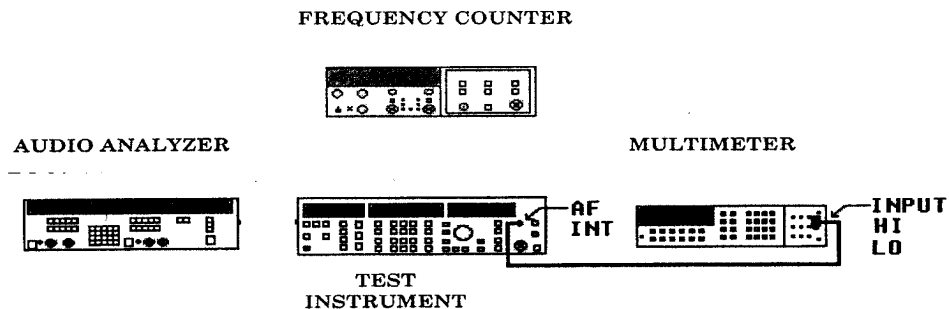

Figure 6. Modulation generator accuracy.
- (1) Connect equipment as shown in figure 6.